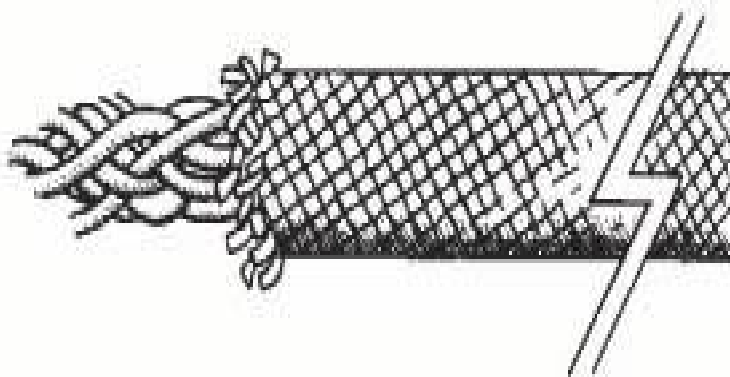

Figure 2-1. Static Kernmantle Rope
a. STATIC KERNMANTLE ROPE (Figure 2-1).
(1) National stock number (NSN): General service (GS) Contract #GS07F14181
(2) Characteristics: A high strength inner core covered by an outer woven sheath.